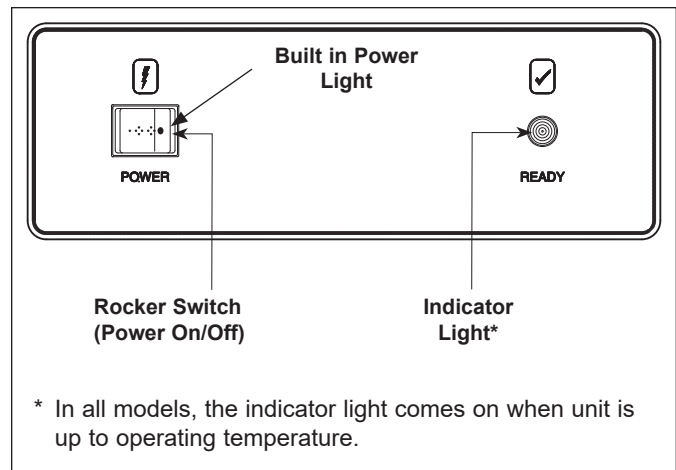

Figure 2. Controls
**NOTE: All models are equipped with a green READY indicator (Figure 2) that lights when water operating temperature is reached.**